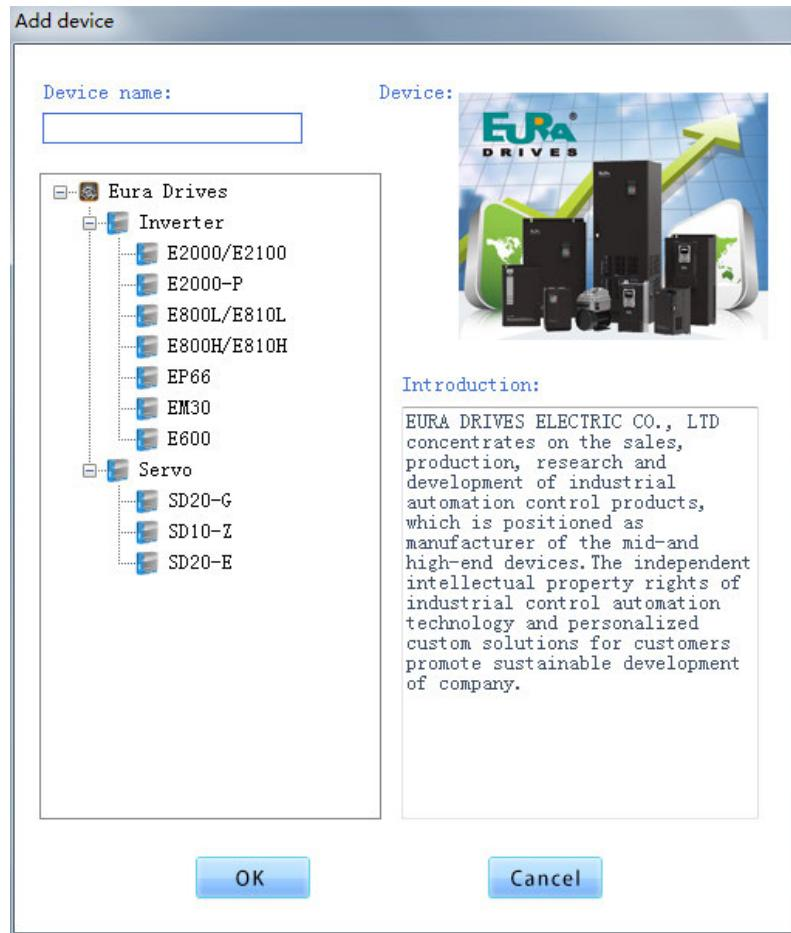

Fig 3-3 New Project Interface
- ① Minimize button
- ② Close button
- ③ Toolbar
- ④ Program main function zone
- ⑤ Feature bar shortcut
3. Create new project, user clicks [Project] → [New Project], enter project name firstly, popup new project window after [Save](Fig 3-3);